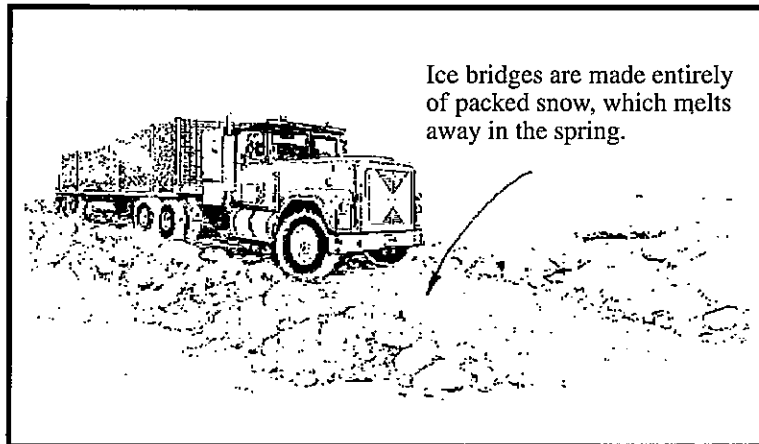

Figure ROAD-5
- ✓ **Construct temporary crossings for winter roads** where practical. Examples of preferred temporary crossings include ice bridges, temporarily installed culverts and bridges (including use of native log materials). Soil fill should not be used on these temporary structures. See Figure ROAD-5.